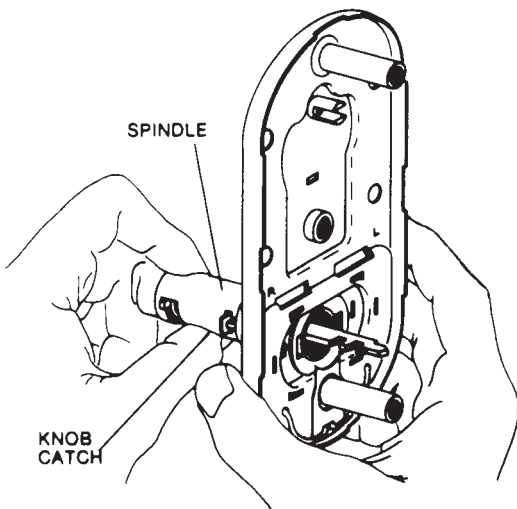

Figure 13.75 Changing hand, Step 6.
6. Rotate the spindle 180° to relocate the knob catch (Fig. 13.75).